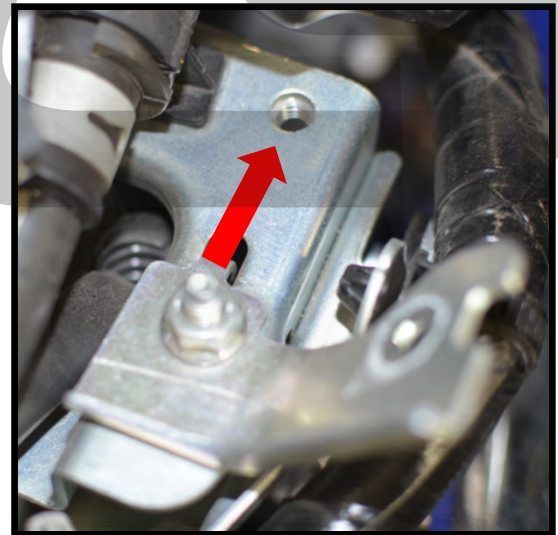

Figure 7b
- b) **Relocate the evap solenoid and bracket.** Using the provide bolt and a 10mm socket and ratchet, move the bracket to the OEM threaded hole shown with the red arrow in **Figure 7b**. Reattach the evap solenoid.